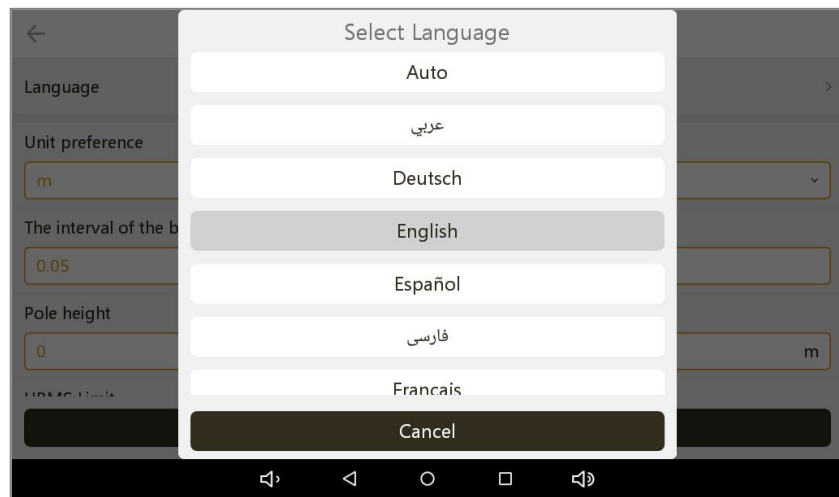
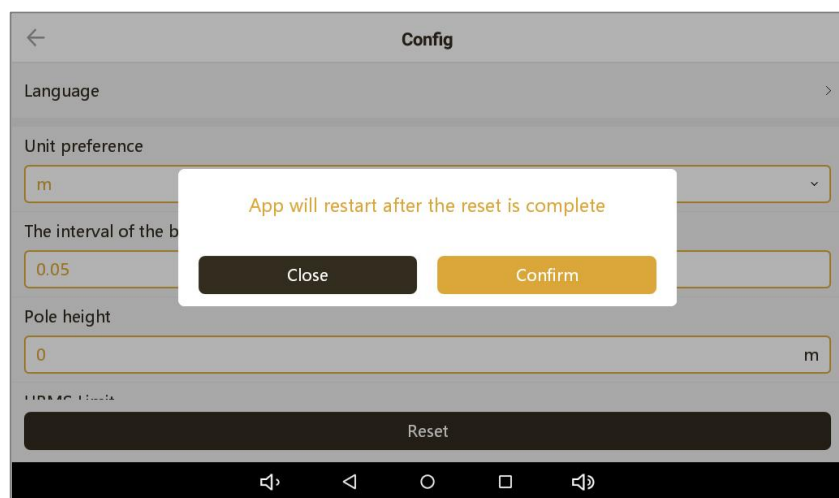

Figure 4-72
Figure 4-73
(1) Language, as shown in Figure 4-72. Language options include 'Auto', 'Chinese (Simplified)', 'English', 'Korean', and several other languages. The 'Auto' setting follows the device language; any unsupported languages will default to English.
(2) Bucket Best State Interval. When set to 0.03, it means that any value within ± 3 cm is considered to meet the accuracy requirement and will be displayed in green during operation.
(3) HRMS/VRMS Limits. The smaller the HRMS value, the more stable the horizontal positioning; the smaller the VRMS value, the higher the elevation accuracy. These can be manually adjusted according to actual requirements.
(4) When 'Distance from Project Starting' is enabled, the job interface will display in real time the distance in meters from the start point.
(5) Reset button, as shown in Figure 4-73. Resets all parameters in the software configuration interface to their default values.